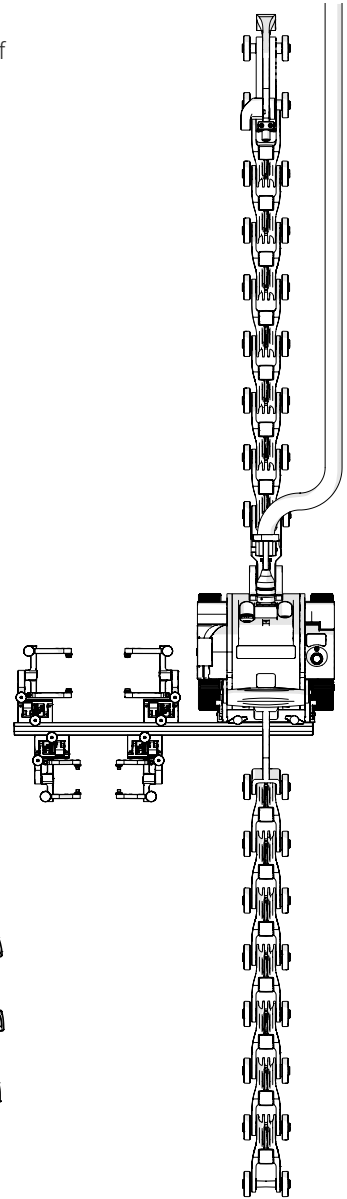

Fig. 193 - Assembled configuration
4. On a flat surface, connect the appropriate number of links as indicated on the setup chart (Fig. 193).